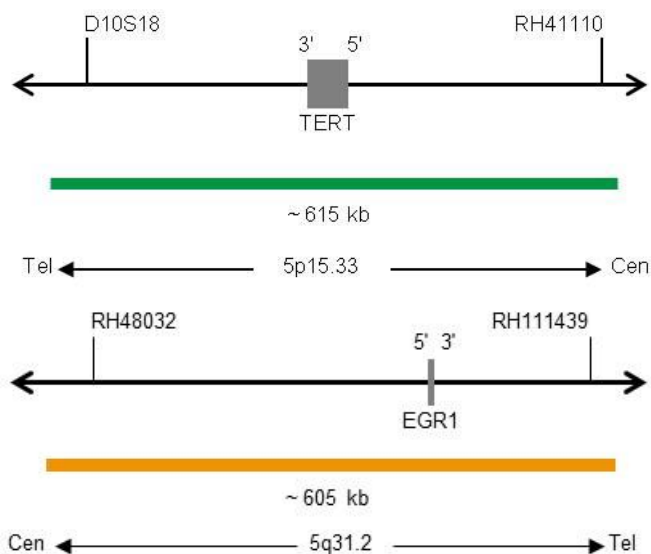

Fig. 1: Top: SPEC TERT Probe map; Bottom: SPEC 5q31 Probe map (not to scale)
- ZyGreen (excitation 503 nm/emission 528 nm) labeled polynucleotides (~10 ng/ μ l), which target sequences mapping in 5p15.33* (chr5:974,089-1,588,209) harboring the TERT gene region (see Fig. 1).
- ZyOrange (excitation 547 nm/emission 572 nm) labeled polynucleotides (~4.5 ng/ μ l), which target sequences mapping in 5q31.2* (chr5:137,394,637-137,999,163) (see Fig. 1).